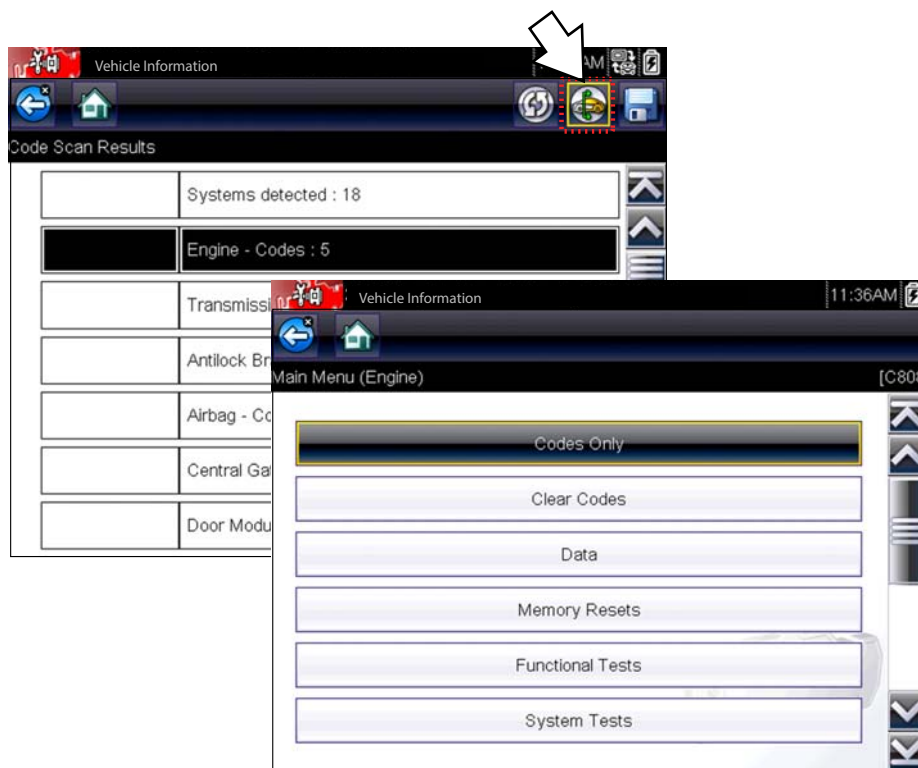

Figure 5-9 System icon (opens Main Menu)
- **A list of all the systems analyzed with DTCs totals.** A categorized system list with DTC totals is displayed in the order they are scanned. To view the main menu for a system in the list, select the system, then select the **System** icon (Figure 5-9).